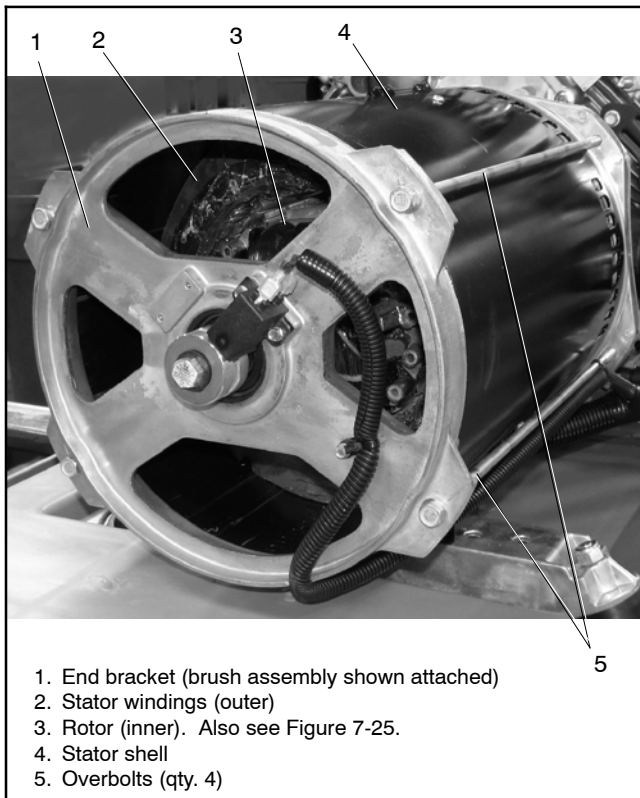
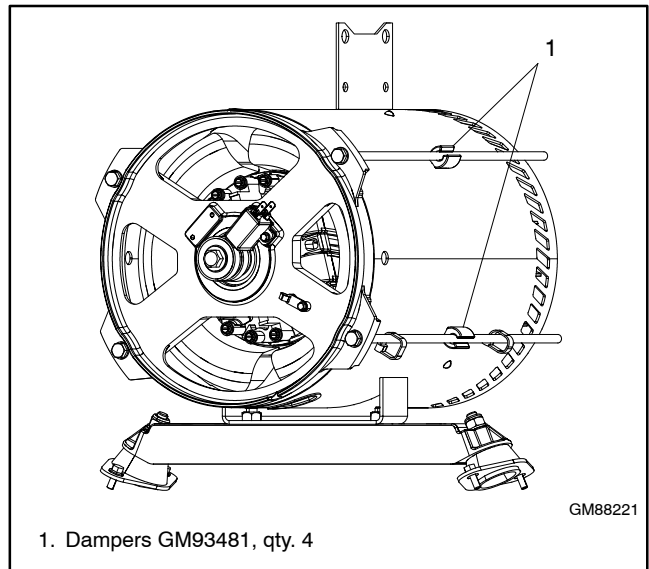

Figure 7-29 End Bracket and Overbolt Assembly
Figure 7-30 Overbolt Dampers (if equipped)
- e. Place the end bracket onto the stator assembly, lining up the alignment marks on the top of the stator and end bracket. See Figure 7-29.
- f. Thread the four overbolts with locating washers through the end bracket and into the generator adapter, sliding one damper onto each overbolt, if equipped. See Figure 7-29 and Figure 7-30.